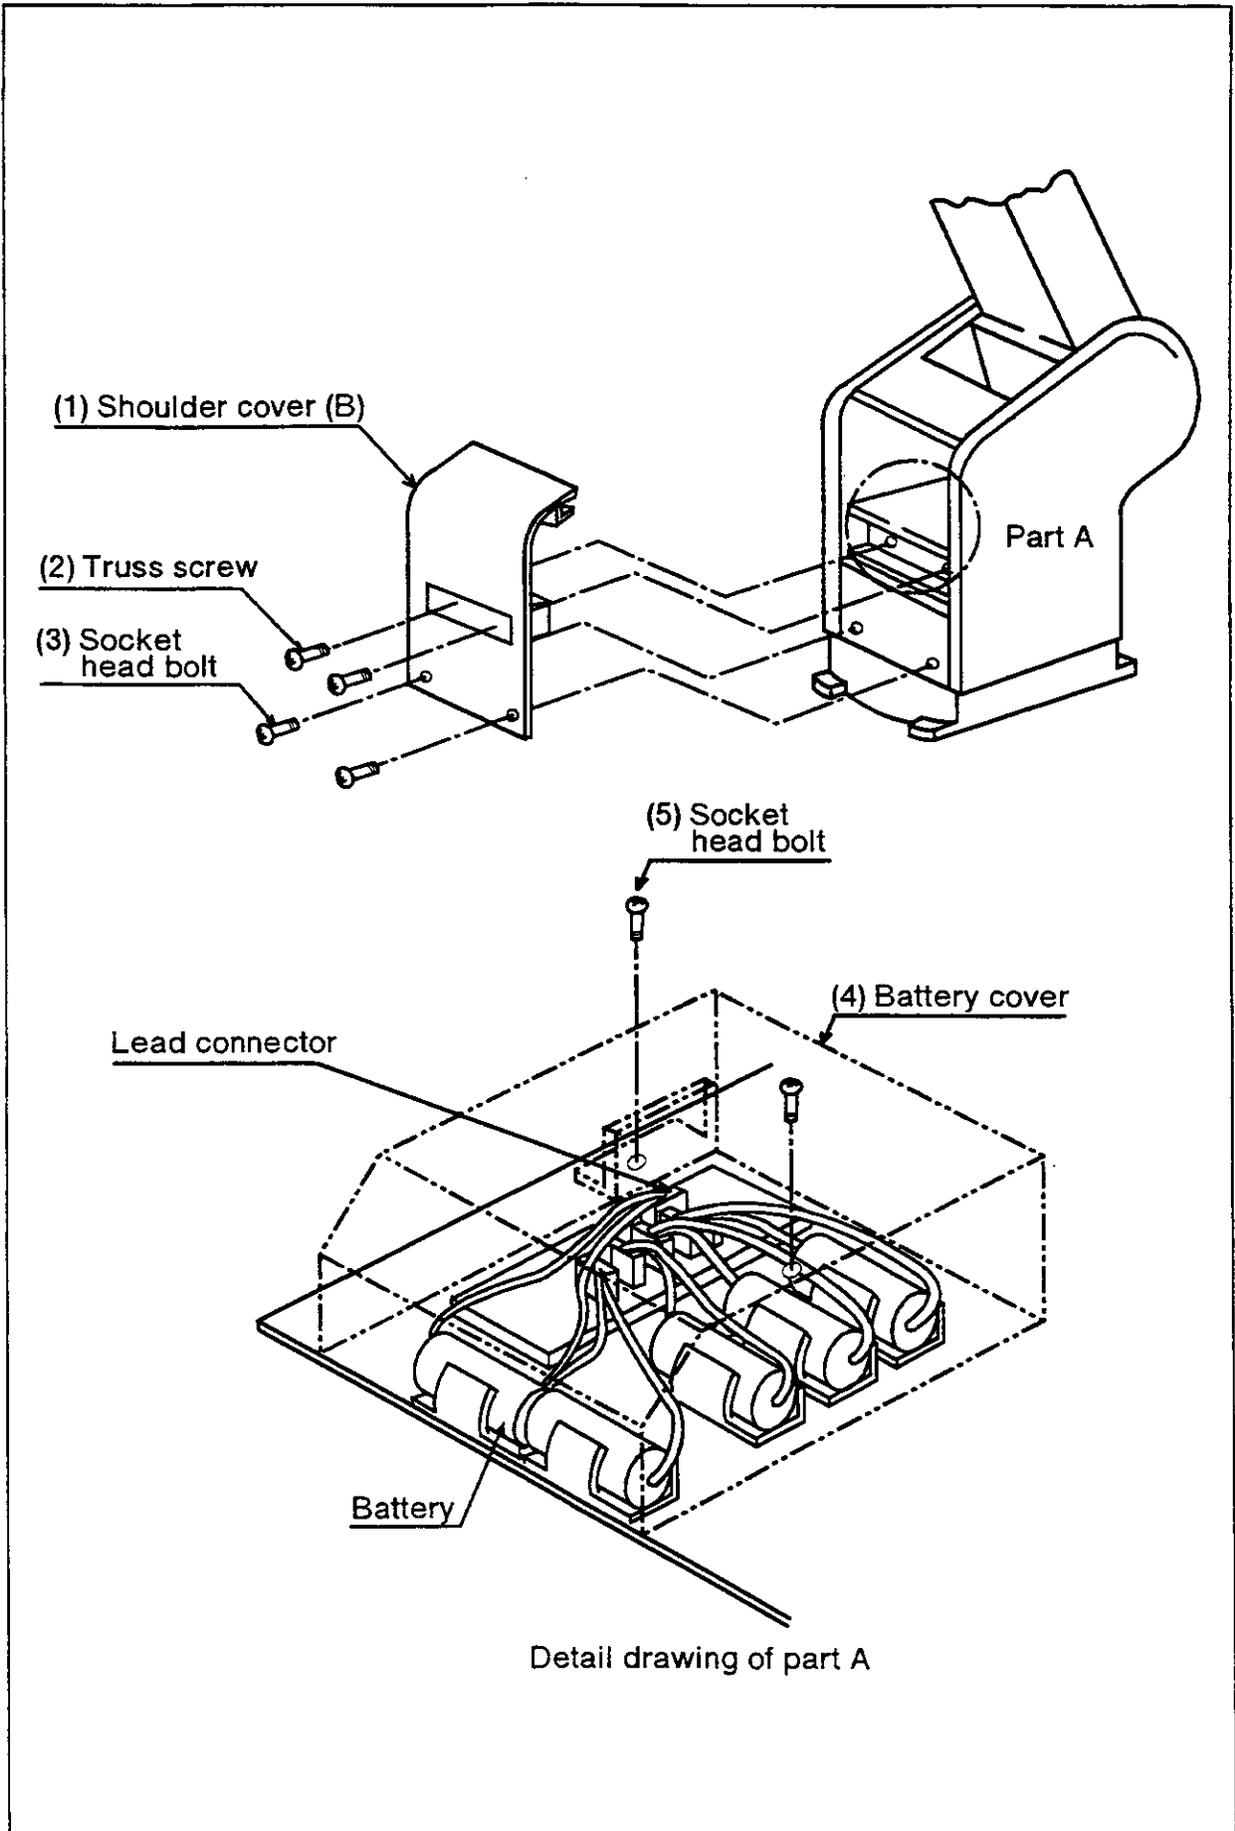

Fig. 5.7 How to replace batteries of the main robot unit
Fig. 5.7 shows how to replace the batteries for the main robot unit.
4. Remove the fixing screws 2 and 3 as shown in Fig. 5.7, and remove the shoulder cover (B) , 1, from the robot.